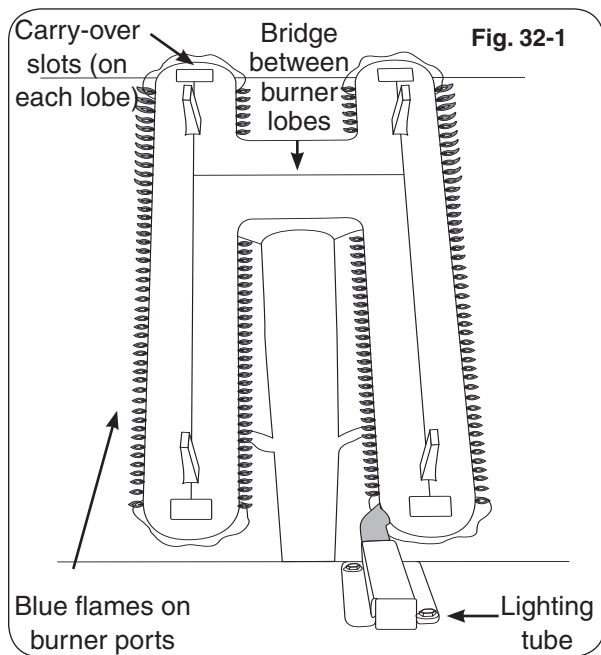

Fig. 32-1
Flames from a properly adjusted main burner with no wind or breeze present will appear fairly steady, consistent, and mostly blue. If the tip of a flame were to turn orange, it should only do so briefly and then become blue again. The flames will appear to burn while touching the burner ports (see Figure 32-1).
5. Repeat steps 1-4 until the flames appear to touch the burner ports, burning fairly steadily and mostly blue (see Fig. 32-1).